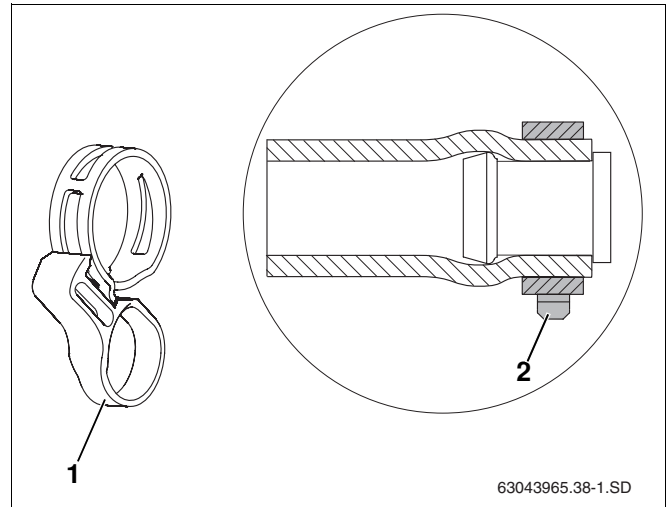

Fig. 17 Hose clip with locking ring, also shown fitted to the pre-assembled dummy plug
- The hose clip **MUST** be positioned correctly **BEFORE** the release ring (Fig. 17, **Item 1**) is removed (Fig. 17, **Item 2**). Subsequent loosening using pliers can impair resilience.